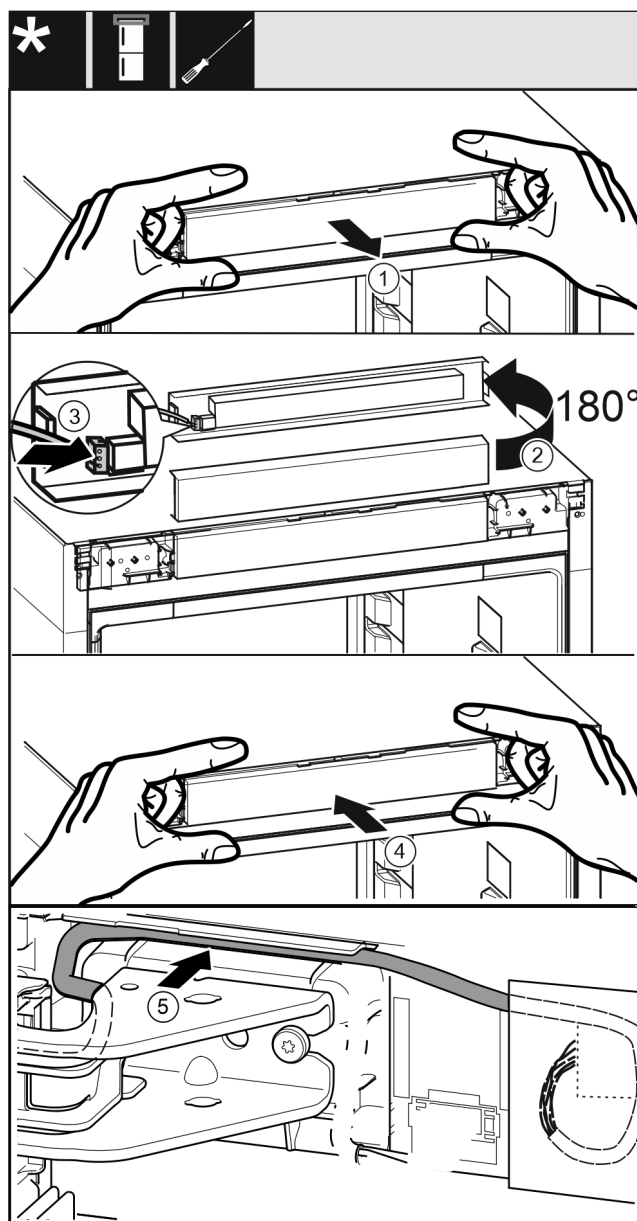

Fig. 62
- Remove the control panel trim Fig. 62 (1) carefully.
- Turn the control panel trim Fig. 62 (2) up by 180°.
- Engage the plug Fig. 62 (3) on the control panel trim.
- Re-engage the control panel trim Fig. 62 (4) on the appliance.
- Lay the cable Fig. 62 (5) carefully in the guide above the top swap bearing block.